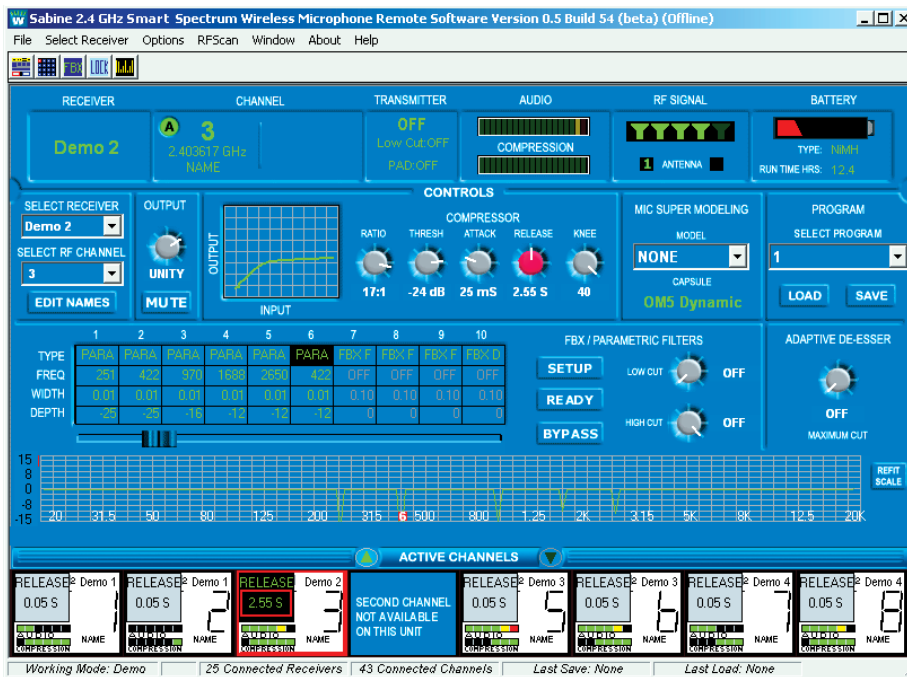

Fig. 13c - Control Software Command View
- **Detailed, quick access to a single set of controls.** The “Command View” (figure 13c) displays comprehensive information about a single selected RF channel, and easy adjustment of all its controls. Command View channel is selected by clicking the appropriate All Channel View button. (NOTE: Each channel display in the All Channel View also allows quick access to parameter adjustments, by using the right mouse button to popup a parameter control menu.)
The default main screen appears as shown in figure 13c.
Shows the Command View on the screen (figure 13c).